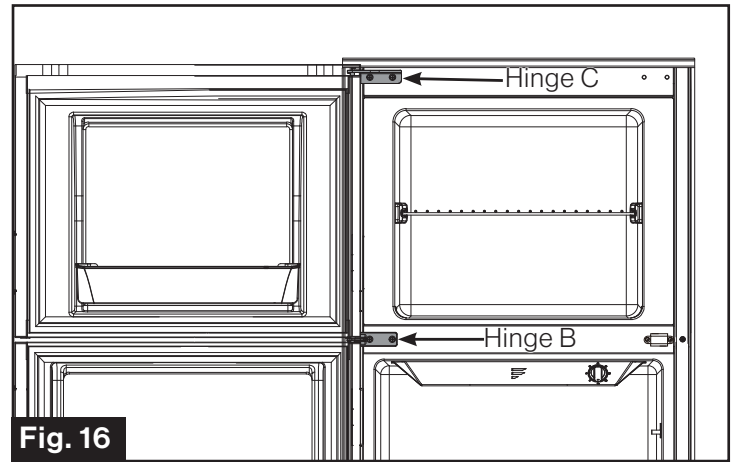

Fig. 16
- Reinstall the Freezer Door and then fix the Hinge C at the top left. (Fig. 16)